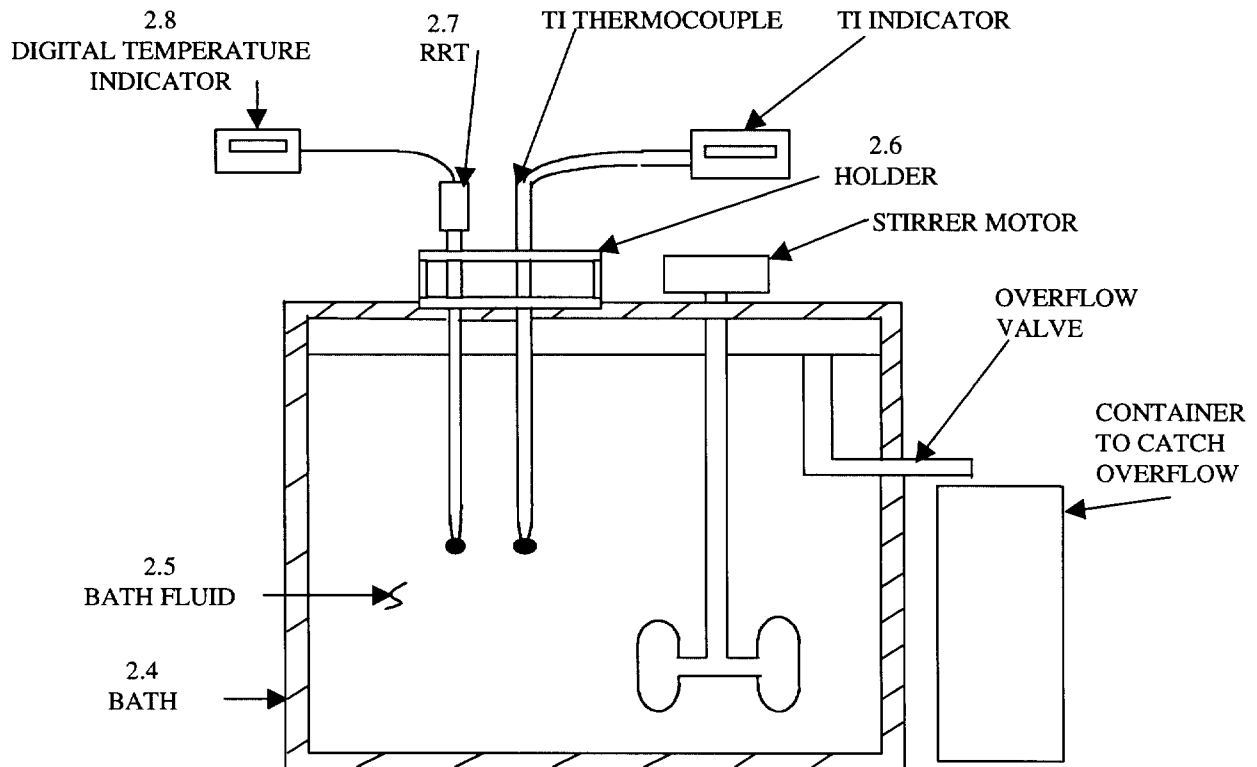

Figure 2. System Temperature Response Test Configuration
4.2.7 Install the TI thermocouple and the RRT in the temperature bath, as close together as the holder will allow (see Figure 2 following). Provide adequate support for the TI and RRT indicators well away from the temperature bath fluid.